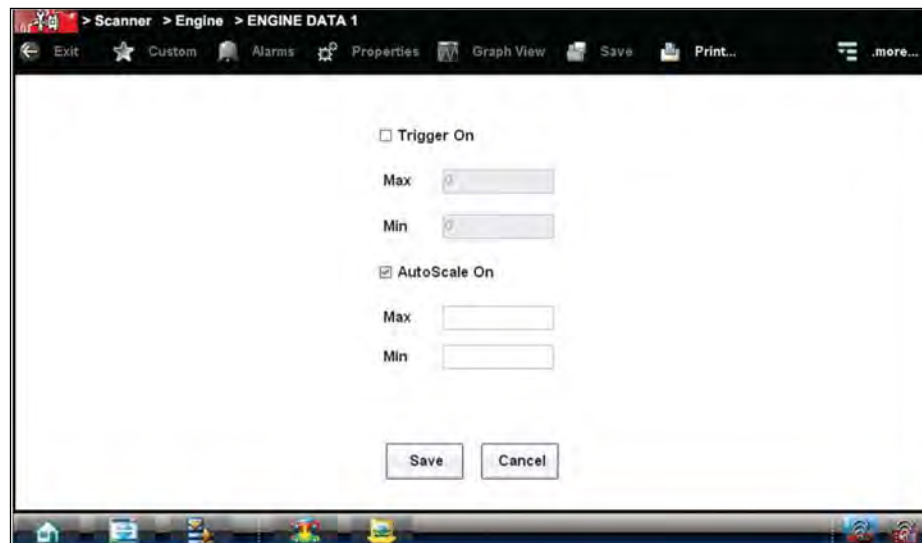

Figure 4-35 Sample manual scale selection
2. From the Graph Properties dialog box (Figure 4-35), select **Auto Scale On**.